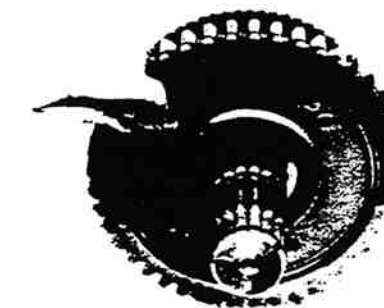

Figure 13-60. Aligning Washer Splines.
14. With a small screwdriver, rotate the 1st speed gear limit washer, recessed within the gear hub, to align its splines with those of the mainshaft (figure 13-60).